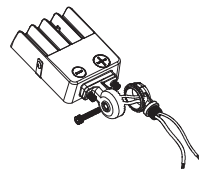

figure 1.2
- Step 3: Pass the wire through from the other bracket and fix it with screws.(Watch out not to scratch the wire);(figure 1.2)